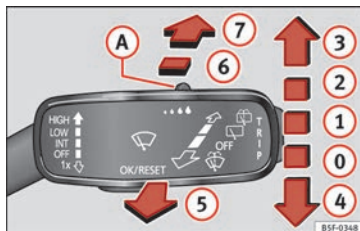

Fig. 41 Operating the windscreen wiper and rear wiper.
- 1 Windscreen wipers interval wipe. Using the control » **Fig. 41** A adjust the interval (vehicles without rain sensor), or the sensitivity of the rain sensor.